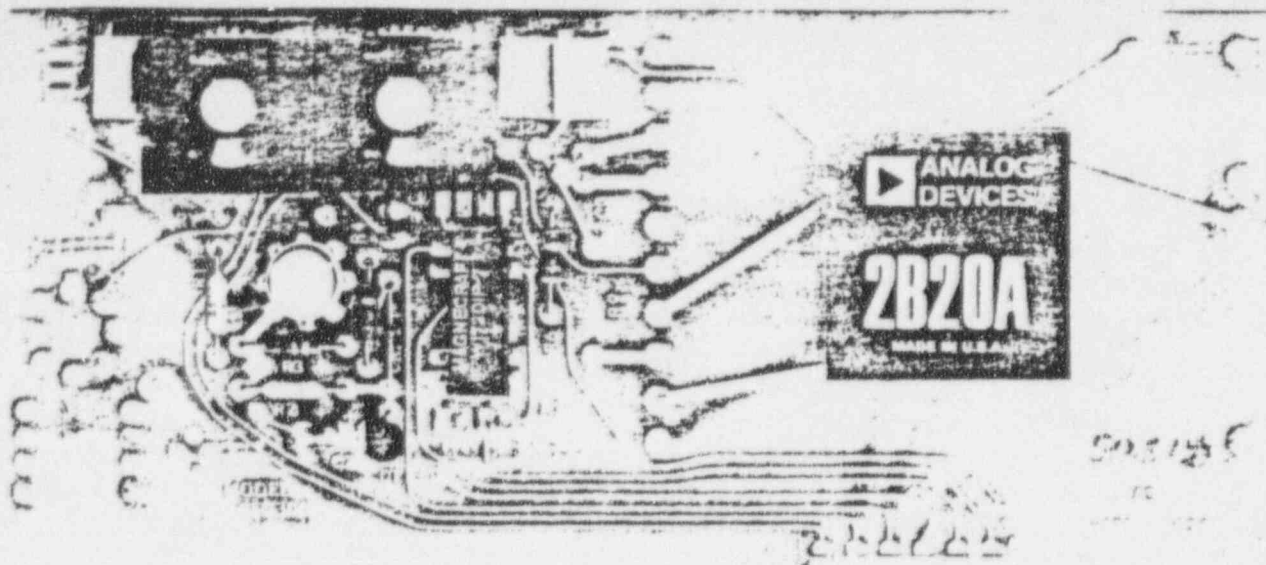

FIGURE 1-5. MODEL 911-AS ALARM SET/4-20 MA MODULE OPTION
1.2.3 Model 911-AS/MA Module Option (Figure 1-5)